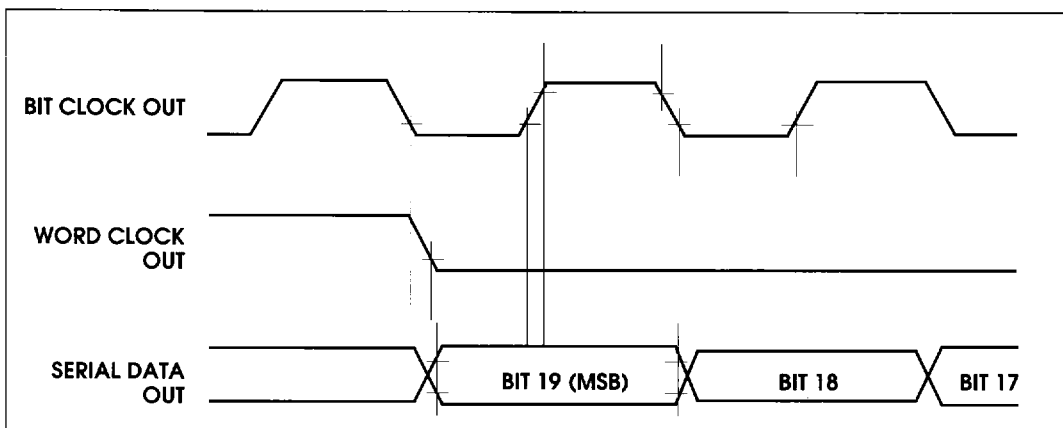

Figure 1. Serial Data Output Timing
Serial output data is presented on the SERIAL DATA OUT pin (15), synchronized with the BIT CLOCK output on pin 16. The data is output as a 32-bit field, MSB first, with the last 12 bits at logic "0". The data changes state on the high-to-low transition of the BIT CLOCK signal. The bit rate in kHz is determined by multiplying the 32 bit field by the sampling rate clock. Thus, for a 2kHz data sampling rate, the bit clock is $32 \times 2\text{kHz}$, or 64kHz. *Figure 1, "Serial Data Output Timing"* shows the timing relationship for serial data output from the **SP4630**.